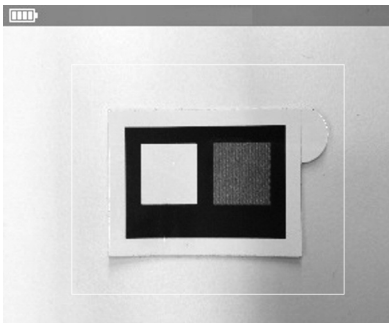

Figure 12 – Using ϵ -markers
3. Move the joystick to the right until ϵ -Assist is selected and press OK. The screen will change to the real image. A white box will appear on the real image. Place the box around the ϵ -marker (see Figure 12). Thermal imager should be 20" to 28" (0.5 to 0.7 m) away from the ϵ -marker, and at a 10-30 degree angle.